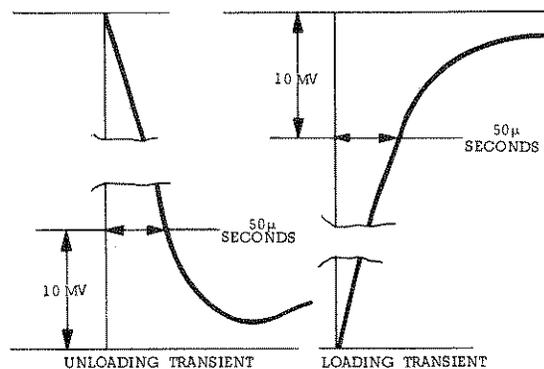

Figure 5-8. Transient Response, Waveforms
- Adjust 25K potentiometer until a stable display is obtained on oscilloscope. Waveform should be within the tolerances shown in Figure 5-8, (output should return to within 10 mv of original value in less than 50 microseconds).